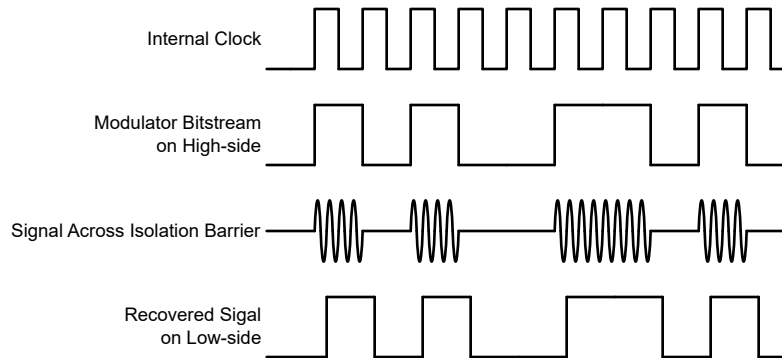

Figure 7-1. OOK-Based Modulation Scheme
The AMC1351 uses an on-off keying (OOK) modulation scheme, as shown in Figure 7-1, to transmit the modulator output bitstream across the SiO₂-based isolation barrier. The transmit driver (TX) shown in the Functional Block Diagram transmits an internally-generated, high-frequency carrier across the isolation barrier to represent a digital *one* and does not send a signal to represent a digital *zero*. The nominal frequency of the carrier used inside the AMC1351 is 480 MHz.